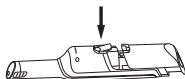

Abb. 2
- It is recommended to clean the dust bin (14) after every use of the vacuum cleaner. Regularly clean the HEPA-filter (13).
- Press the lock (5) and remove the «hand vacuum cleaner» from the handle body.
- Press the lock (12) and remove the dust container (14) (fig. 2).